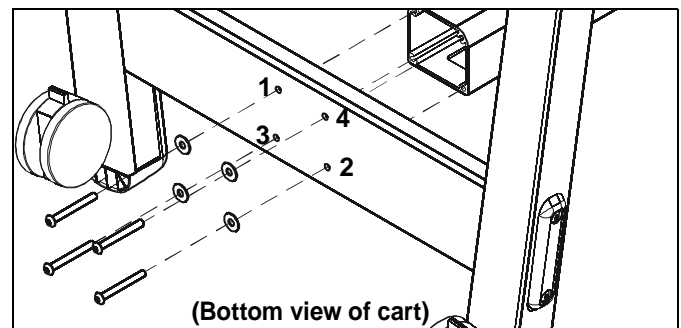
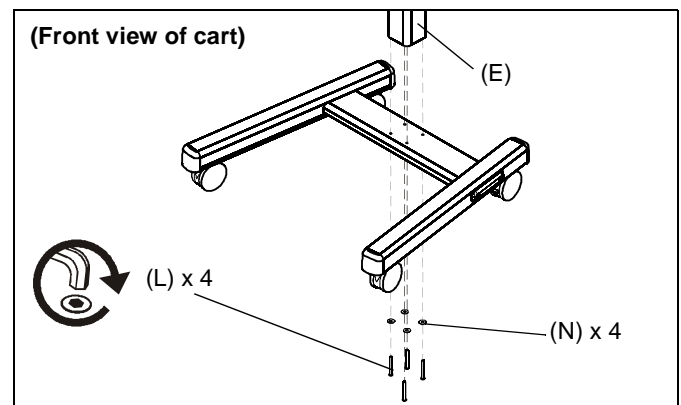

Figure 3
Figure 4
NOTE: Insert and turn screws in order shown (1, 2, 3, 4) in Figure 3.
5. Attach center post (E) to leg assembly using four 5/16-18 x 2-3/4" button head cap screws (L) and four 5/16" washers (N). (See Figure 3) and (See Figure 4)